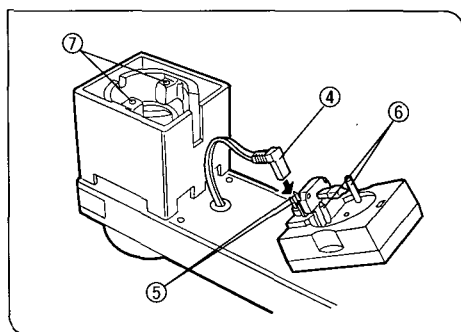

Fig. 9
2. Insert the plug ④ into the socket pin ⑤. Then align the guide pins ⑥ with the guide holes ⑦ on the illumination column, and gently place the lamp socket on the illumination column. (Fig. 9)